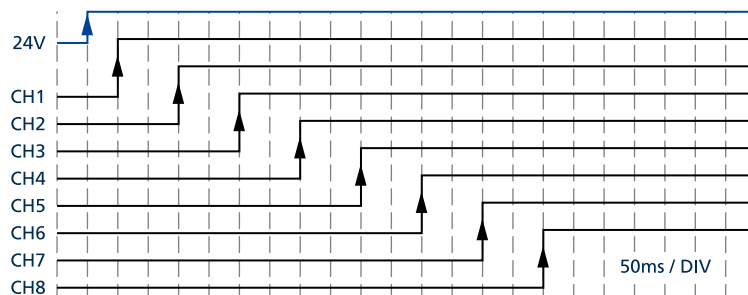

Fig. 5-1: Turn-On sequence after applying an input voltage
**Note:** the first tripped channel is switched on immediately after valid reset signal (1 s). Remaining tripped channels are switched on with 100 ms delay, similar to the turn-on sequence described in Fig. 5-1.